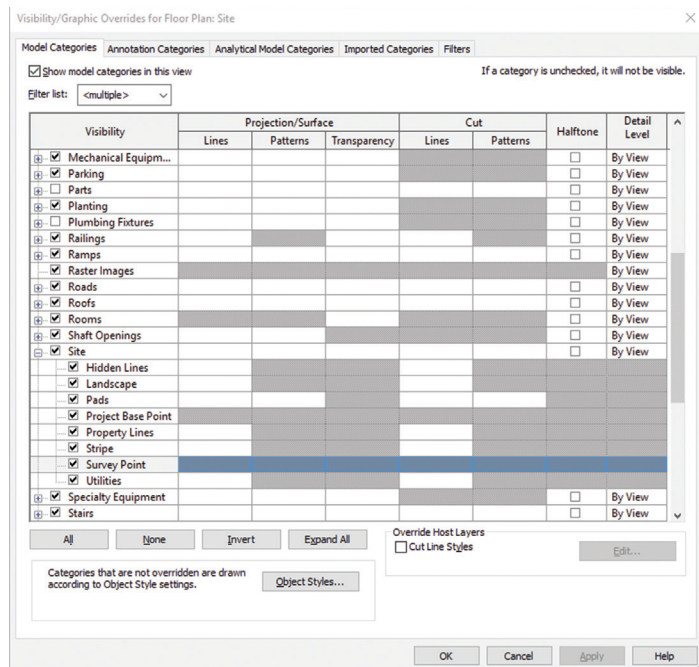

Figure 4
3. Access the “Visibility/Graphics Overrides” for the Site Plan within the Revit Project (see Figure 4).